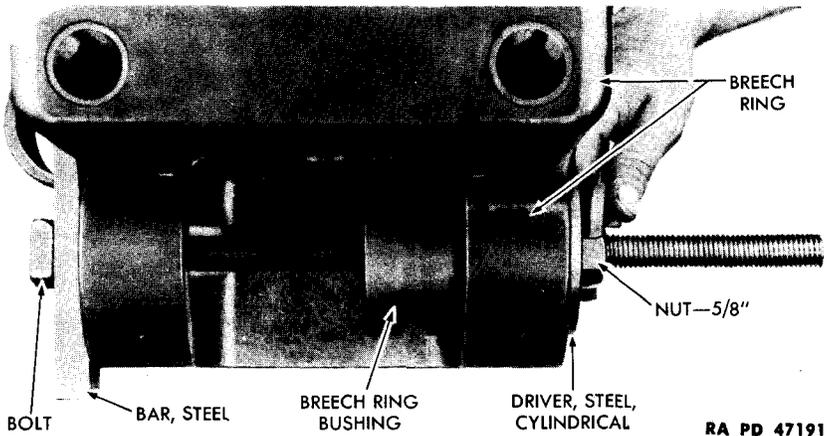

Figure 21 — Removing Bushings from Breech Ring
(1) Breech ring bushings are press-fitted. If available, an all purpose puller or a ram can be used for removing them. If neither of these is available, a special improvised tool is necessary for their removal and installation (fig. 21). This tool consists of a $\frac{5}{8}$ - by 14-inch bolt with 6-inch thread of $\frac{5}{8}$ -inch-11 NC dimension. A steel bar, $\frac{5}{8}$ by $1\frac{1}{4}$ by 5 inches, is centrally drilled with a $\frac{5}{8}$ -inch hole to provide a snug fit for the bar against bolt head. A cylindrical driver $2\frac{1}{8}$ inches in length is machined to 3.000 (-0.010) diameter, and one end of this cylinder driver is turned down to 2.750 (-0.005) diameter for a distance of $\frac{5}{16}$ -inch from face of driver. The cylindrical driver is drilled axially with a $\frac{4}{16}$ -inch hole (break all sharp corners) to provide for insertion of the bolt. A $\frac{5}{8}$ -inch nut is provided to fit the bolt loosely and to facilitate removal and installing operations by being able to spin the nut during its free travel on bolt.
(2) Place the $\frac{5}{8}$ - by $1\frac{1}{4}$ - by 5-inch bar on the $\frac{5}{8}$ - by 14-inch bolt, so that bar is snug against bolt head (fig. 21). Then insert bolt from outside breech ring through both bushings with steel bar (at head of bolt) against outside of breech ring on opposite side of bushing to be removed. Install cylindrical driver on bolt with smaller diameter of driver alined inside bushing on opposite side of breech ring. Screw the $\frac{5}{8}$ -inch nut on bolt and up against cylindrical driver. When nut is snug against driver, continue to turn nut until driver forces bushing out of breech ring.
(3) Remove the $\frac{5}{8}$ -inch nut from the $\frac{5}{8}$ - by 14-inch bolt, then slide cylindrical driver from bolt and remove bushing from bolt. Lay bushing aside. Remove the $\frac{5}{8}$ - by 14-inch bolt from breech ring and install from opposite side of breech ring in order to remove the other bushing, which is removed in exactly the same manner.